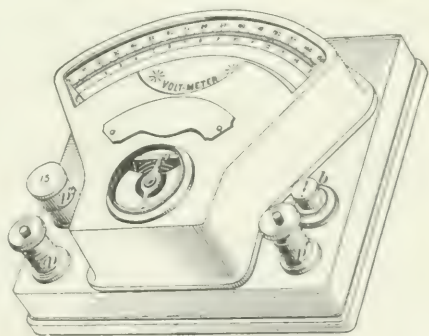

FIG. 46.
58. The **Weston voltmeter**, Fig. 46, is based upon the same principles as the Weston ammeter, and in appearance is quite similar to it. Its internal resistance, as in all voltmeters, is exceedingly large; the resistance of a Weston voltmeter for indicating up to 150 volts is about 19,000 ohms, while the resistance of a Weston ammeter, measuring strengths of currents up to 15 amperes, is only .0022 ohm. It will be seen that, owing to the great resistance, the current passing through a voltmeter is exceedingly small. For example, in the instrument described above, when indicating 150 volts, the current, by Ohm's law, is only $150 \div 19,000 = .0079$ ampere. All voltmeters are provided with at least two terminals, or binding posts, such as p and p' , Fig. 46. Connections are made by two separate conductors, called *voltmeter leads*, from these binding posts to two points between which the difference of potential, or the electromotive force, is to be measured.